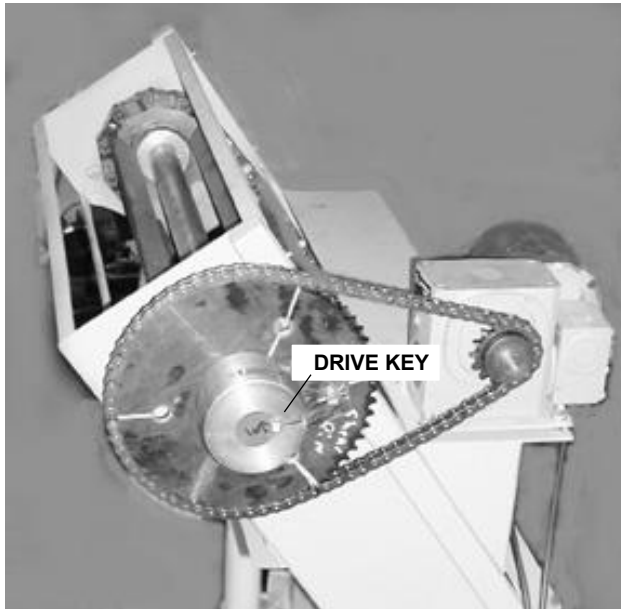

Figure 6. Drive Chain
3. Move the drive motor / speed reducer assembly forward on its adjustment screws to relieve tension on the drive chain. See Figure 6.
B. Drive sprocket turns but headshaft does not, check the drive key to ensure that it is not sheared (see Figure 6. If the key is not sheared, see “Replacement of Headshaft Shear Pin:”